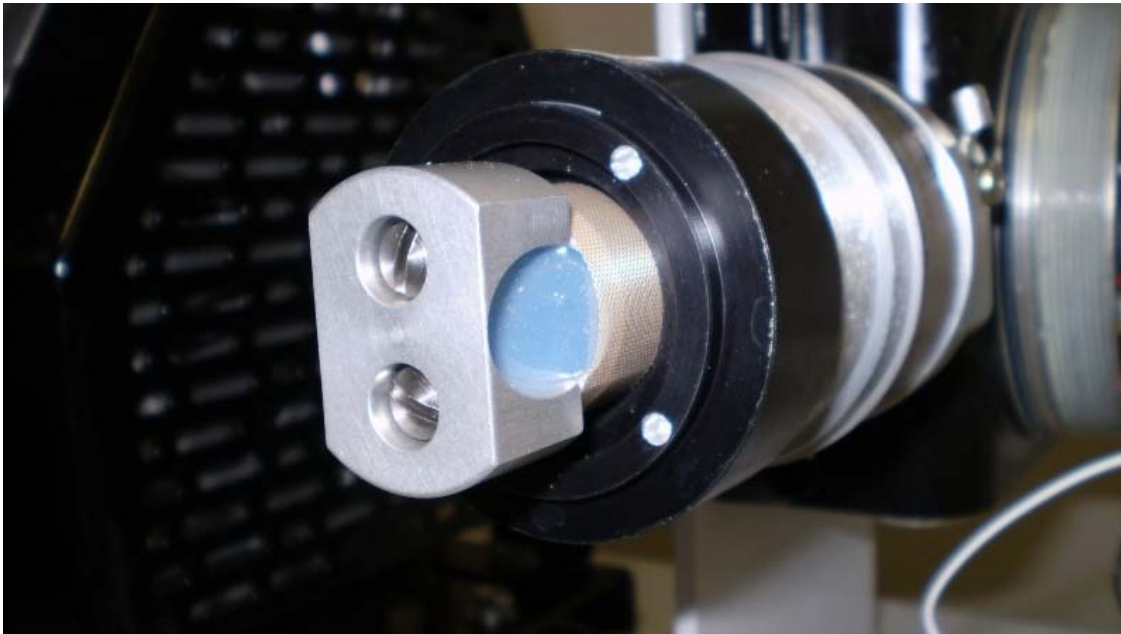

Figure 53: HC IR sensor installation orientation
- See Figures 53 and 54.
- See Figure 53.
6. Re-install the (2) ¼" 45° flare tubing on the top and bottom sides of the HC IR sensor module.